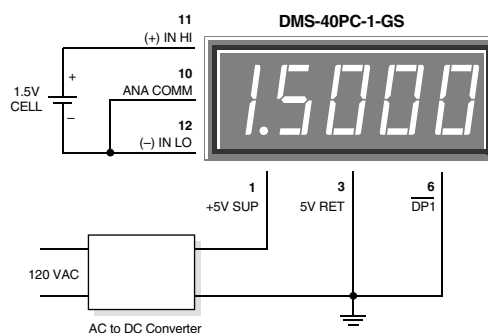

Figure 5. Floating Input Measurements
**4. Floating Signal Source Measurements:** A floating input is a signal that, before it is applied to the DMS-40PC's inputs, has no galvanic connection (direct current path) to the meter or the meter's power supply. The circuit shown in Figure 5 illustrates the necessary connections for measuring floating inputs. The 1.5V battery represents a true floating input signal since it initially has no connection whatsoever in common with the meter. Real-world floating inputs typically originate from power supplies which are transformer isolated from the DMS-40PC's +5V supply.
As the timing diagram in Figure 5 indicates, 100Hz is the optimum display scan rate when the BCD outputs are used to drive external LED displays. Faster scan rates, while permissible, are not necessary. Slower scanning, however, may result in noticeable “flickering” of the display. Common anode LED’s, combined with a 74LS247 BCD to seven-segment decoder, is the simplest way of implementing an